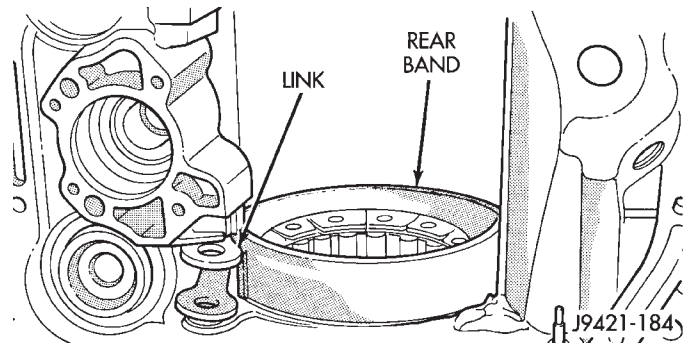

Fig. 88 Rear Band and Link
(30) Using snap-ring plier, pull rear band anchor pin (located on the servo side of the rear support) from transmission case.
(31) Remove rear band and link from transmission (Fig. 88).